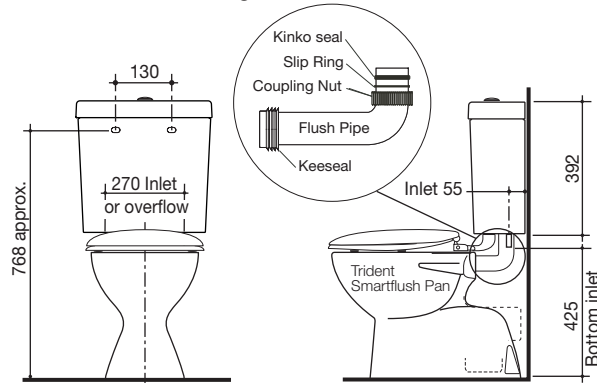

Fig. 2
- 1- Position cistern and mark fixing holes as specified on the finished wall as detailed in Fig. 2.
- 4- Insert the flush pipe into the inlet using a small amount of lubricant. Place the Coupling Nut, Slip Ring (with flat edge facing downwards) and Kinkco seal over the flush pipe as detailed in Fig. 2.